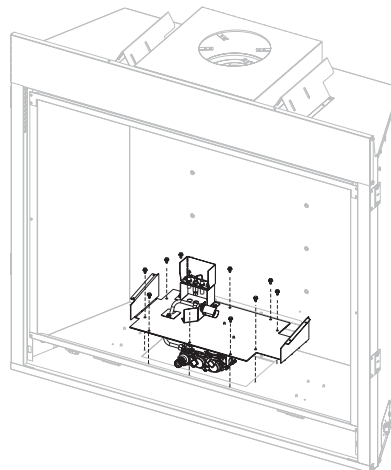

Figure 10
7. Remove seven screws and lift firebox assembly. **See Figure 10.**
12. Reinstall the burner assembly and seven screws removed in step 7. **See Figure 10.**